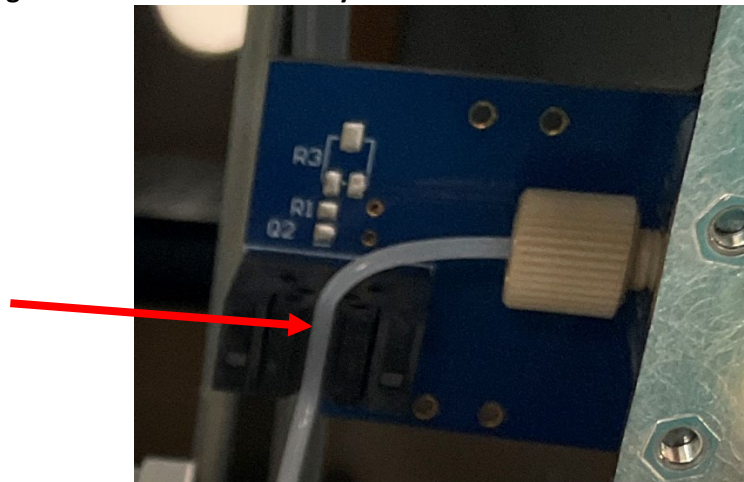

Figure 16
13. Insert Needle-to-Reading Cell Tubing into the Tail Sensor while verifying a nearly 90° angle from the reading cell through the tail sensor. Do not use a sharp tool to push in the tubing as this could damage the tubing. See Figure 16.